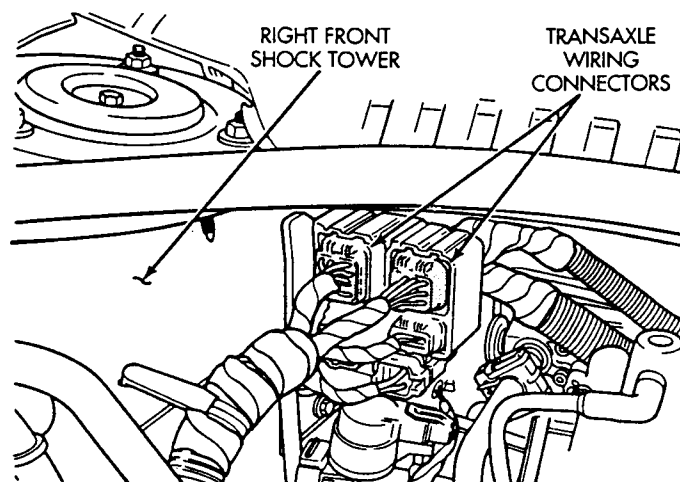

Fig. 2 Wiring Connector Location
- (4) Disconnect transaxle wiring connector located on the right shock tower (Fig. 2).